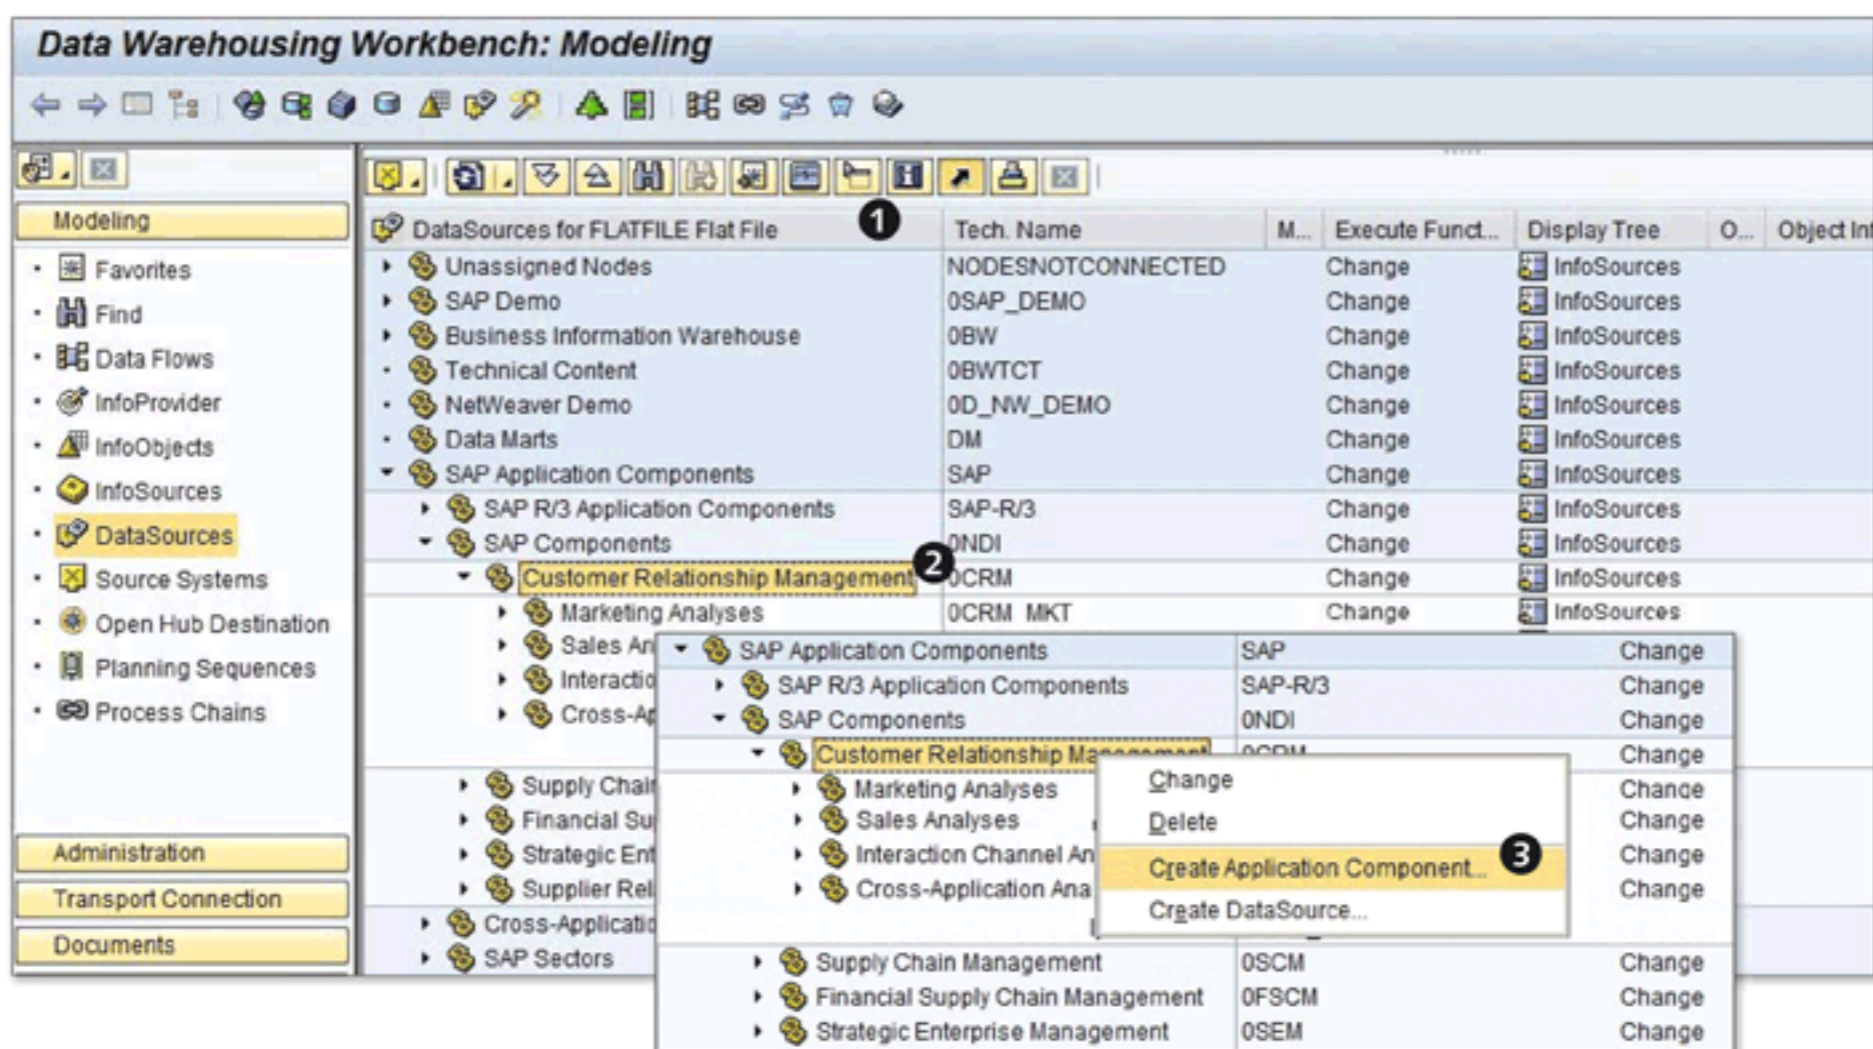

Figure 7.7 Creating Application Components
The result of this action is shown in Figure 7.7, which shows an application component hierarchy (1); just as InfoProviders are attached to InfoAreas, DataSources are attached to application components (4). These application components are used for organizing the DataSource. As shown in Figure 7.7, you can create application components within other application components, depending on your requirements.
In our example, you'll create a new application component simply to learn the process (normally, you would use the application component hierarchy replicated from the SAP source system). Select oCRM (CUSTOMER RELATIONSHIP MANAGEMENT), as shown in 2 of Figure 7.7, and select CREATE APPLICATION COMPONENT from the context menu (3). The screen that appears next is shown in